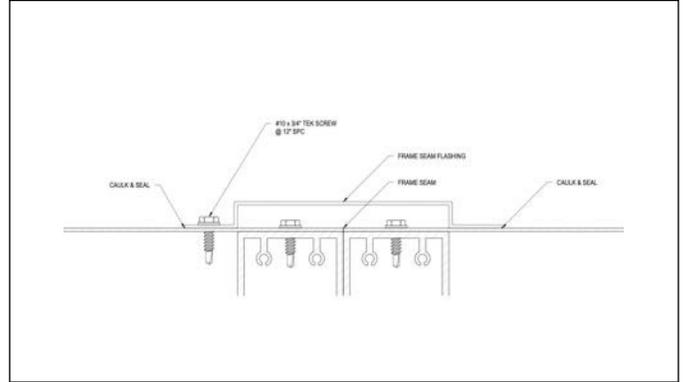

Fig 19
16. B) In multiple frame applications, install and seal flashing at the seams. (Fig 19)